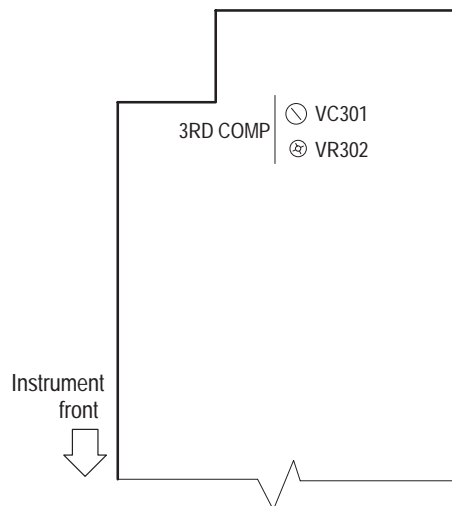

Figure 9: Power and High Voltage board (viewed from the instrument bottom)
6. Adjust VR302 and VC301 to optimize the waveform flatness. See Figure 9 for the adjustment location.